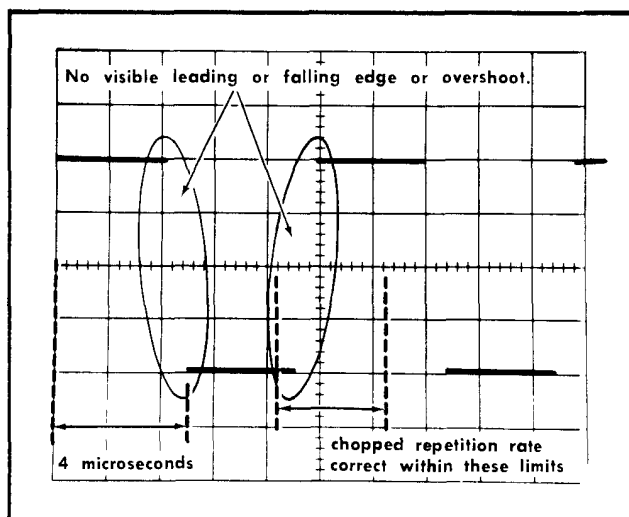

Fig. 5-17. Typical CRT display when checking chopped operation.
- CHECK—CRT display for duration of each cycle between 4.2 and 6.2 divisions (100 kilohertz,  $\pm 20\%$ ; see Fig. 5-17).
d. CHECK—CRT display for complete blanking of switching transients between chopped segments (see Fig. 5-17).